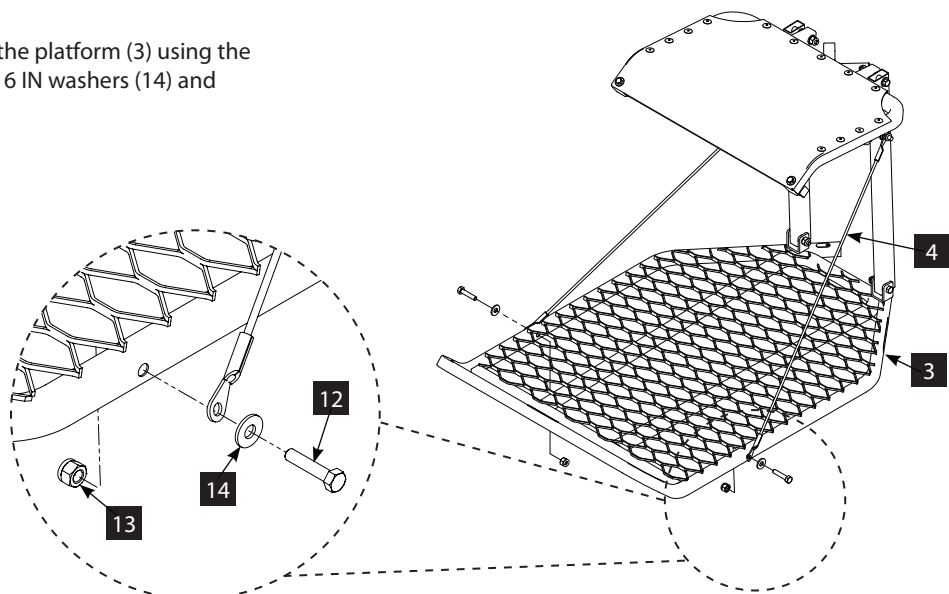

FIGURE 2
2. Bolt the end of both cables (4) onto the platform (3) using the two 5/16-18 X 1-1/2 IN bolts (12), 5/16 IN washers (14) and locknuts (13). **SEE FIGURE 2.**